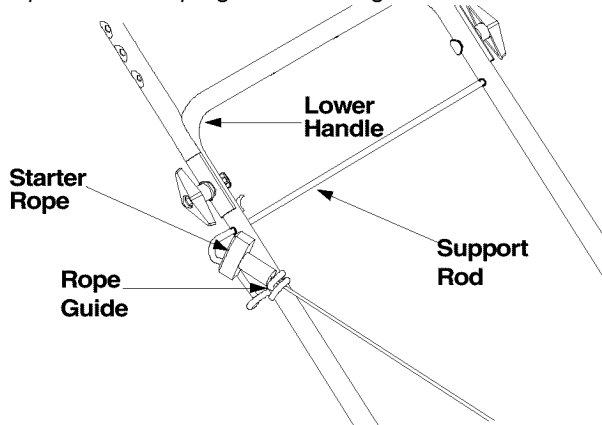

Figure 5
The rope guide is already attached to the right side of the upper handle of your mower. See Figure 5.
- Release the blade control handle. Slip the starter rope into the rope guide. See Figure 5.